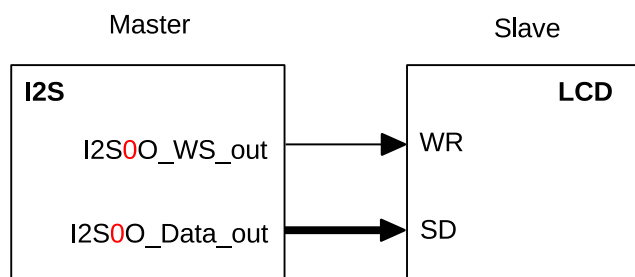

Figure 26.10-1. LCD Master Transmitting Mode
As shown in Figure 26.10-1, LCD WR signal is connected to I2S WS signal. The data width can be set to 8/16/24 bits (parallel), depending on the configuration of `I2S_TX_BITS_MOD[5:0]`.
2. Configure signal pins according to Table 26.2-1 and Figure 26.10-1.